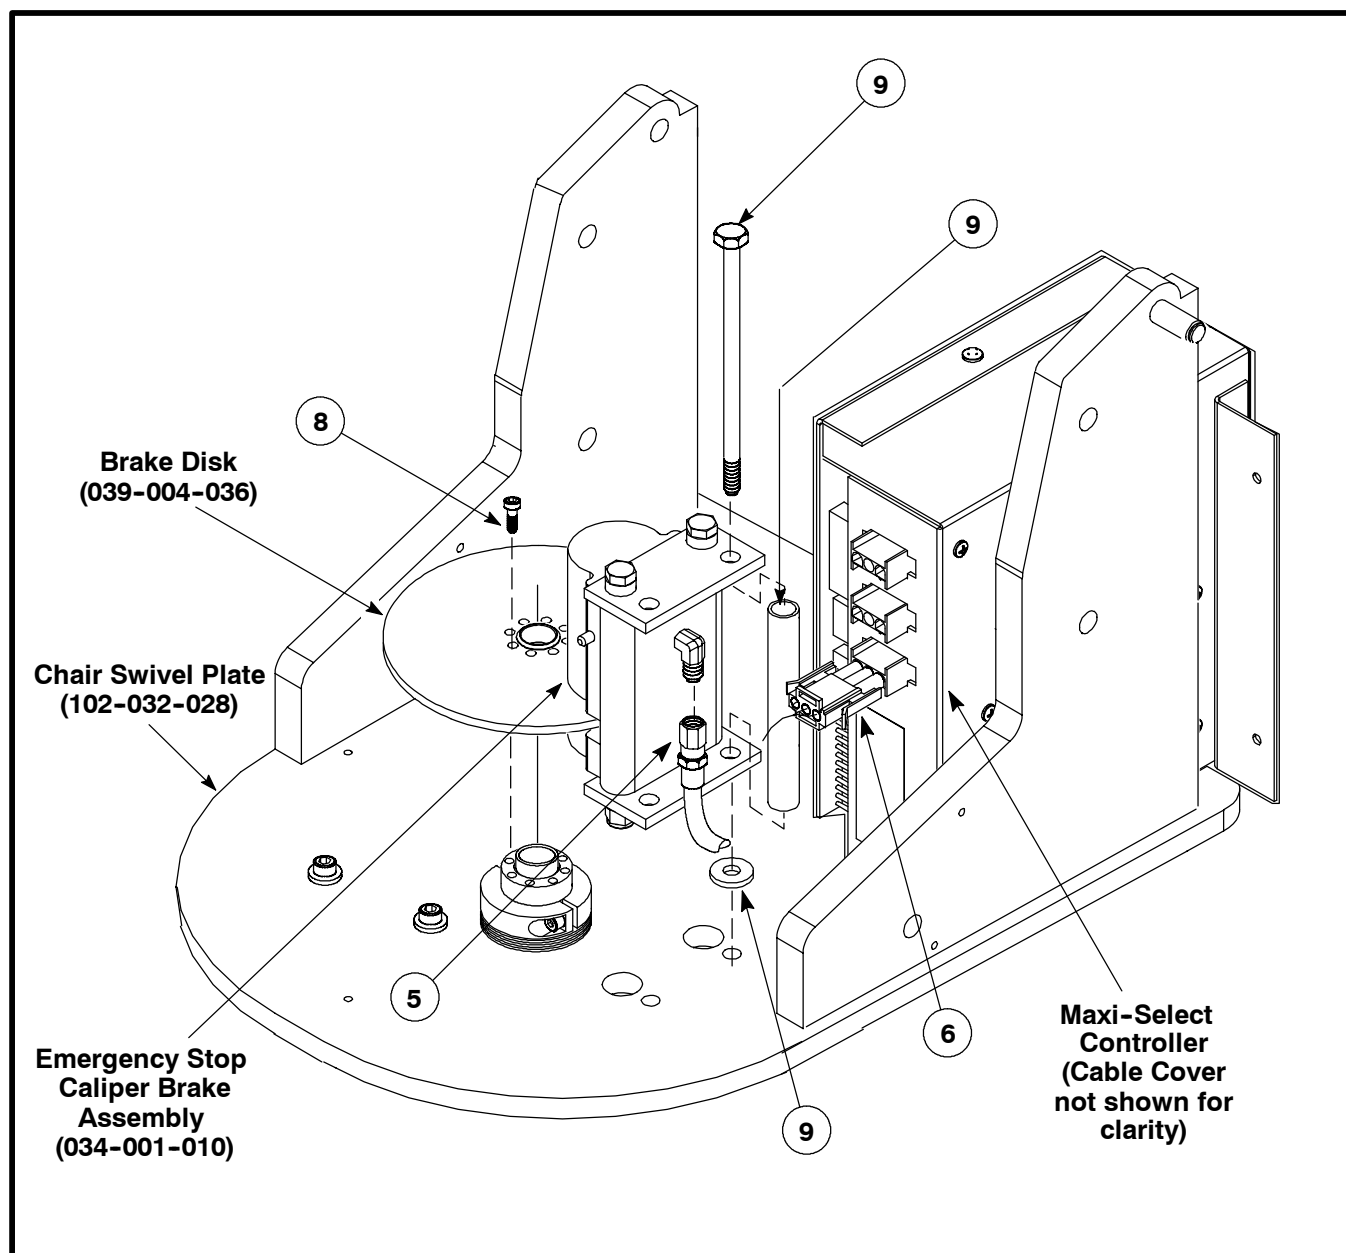

Figure 4-13. Replacing Emergency Stop Caliper Brake
Should the SMR 2700 Maxi Chair Select fail to stop its rotation when the brake is applied, it may be necessary to replace the Emergency Stop Caliper Brake (034-001-010). Refer to Figure 4-13 and proceed as follows:
7. Remove the Ribbon Cable connector from the rear of the Maxi Chair Select Controller. The Ribbon Cable Connector is **not** pictured in Figure 4-13.